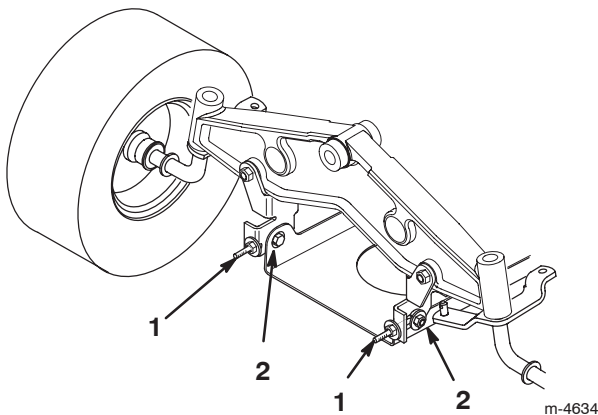

Figure 50
8. To adjust the front-to-rear blade slope, loosen the front pivot plate mounting bolts slightly (Fig. 50).
9. Rotate the locknuts on the eye bolts to change the adjustment (Fig. 50). To raise the front of the mower, tighten the eye bolt locknuts. To lower the front of the mower, loosen the eye bolt locknuts.
11. When the front-to-rear slope is correct, tighten the pivot plate mounting bolts (Fig. 50).